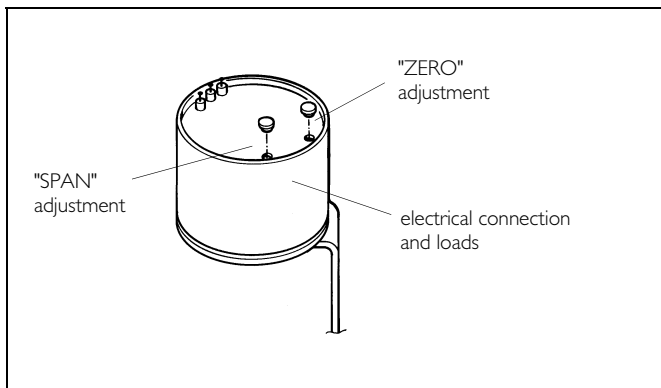

Fig. 7. ZERO and SPAN potentiometers of the position
1. Remove the plugs of the ZERO and SPAN potentiometers of the position transmitter (230), see Fig. 7.